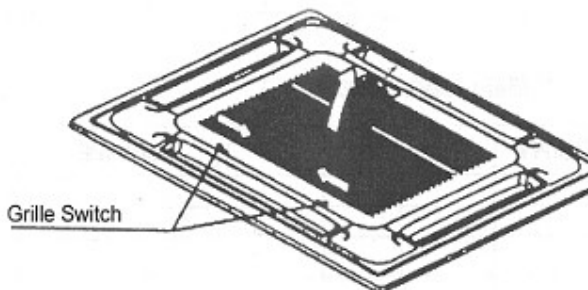

Fig 8
- (1) Slide or press down the two grille switches together, and then lift them up (See Fig 8);